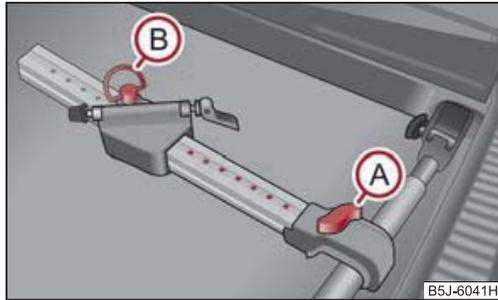

Fig. 70 Install bicycle carrier
- Position the approved bicycle carrier on the cross member, after pulling up the screw (A) ⇒ fig. 70 push the frame side rail (alu-part) towards the cross member until the socket latches, and screw the screw (A) into the nut.
- Slacken the screw (B) and take it out of the moveable part of the fixture; position the moveable part of the carrier, depending on bicycle size, into one of the possible positions, so that it does not come in contact with the boot lid. We recommend to place the moveable part of the fixture in such a position that the holes are visible between the screw (A) and the moveable part.
- Insert the screw (B) into the desired position and tighten. ■
- Slacken the screw (A) ⇒ fig. 70 and push the bicycle holder together with the attached bicycle to the left (in the direction of the arrow), so that no collision between the steering arm and the side window of the luggage compartment can occur.